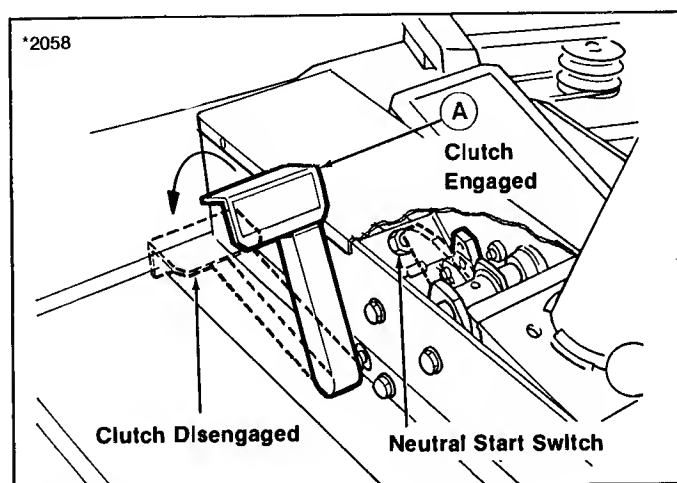

Figure 4.
4. On wheel-steer models, depress clutch pedal. Refer to figure 4.